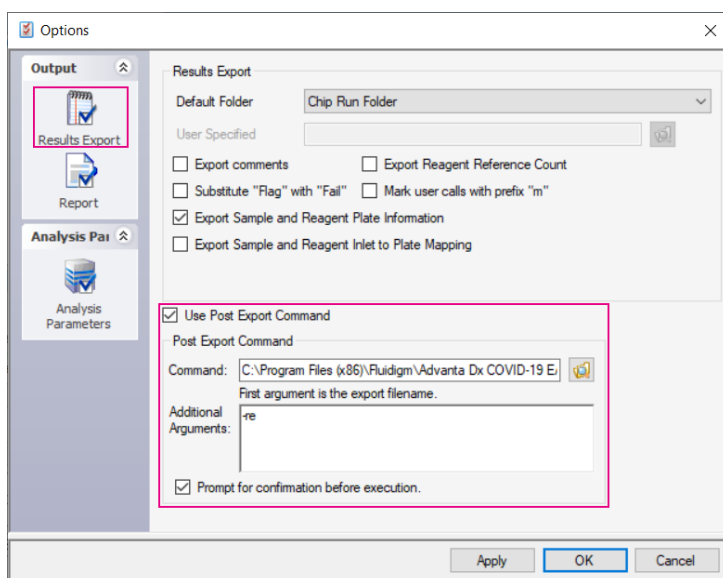

Figure 15. Results Export options
- 2** Click **Results Export** in the **Output** section (Figure 15 on page 30).